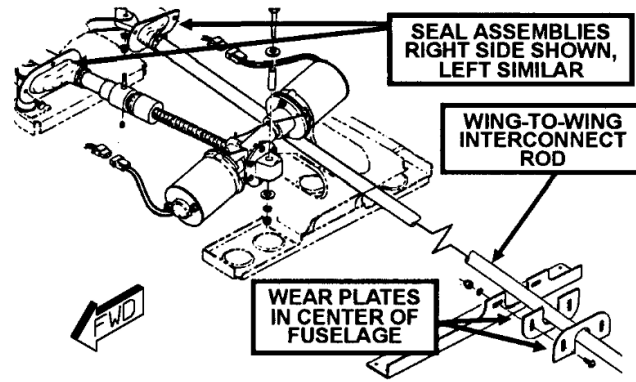

Figure 506
- (5) Inspect the wing-to-wing interconnect rod and wear plates for binding or deformation. (Refer to Figure 506)
(6) Inspect the left and right fuselage pushrod seal assemblies for condition and security. (Refer to Figure 506)